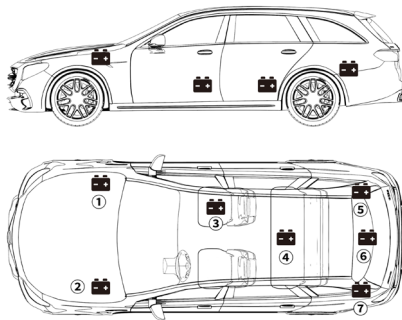

Figure 3.3.1
1) Most models hold the battery in the engine bay, under the hood, in one of the front corners. See battery location ① and ② in Figure 3.3.1.
2) To balance uneven weight distribution, some manufacturers hold the engine in the trunk. See battery location ⑤, ⑥, and ⑦ in Figure 3.3.1. In this case, the battery may have a plastic cover that should be removed prior to any testing.
3) For some models, the battery might be stored underneath the rear seat. See battery location ④ in Figure 3.3.1.
4) For other vehicles, the battery can be located underneath the passenger seat. See battery location ③ in Figure 3.3.1.